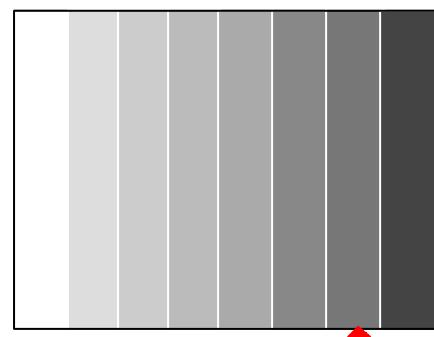

Fig.4-2
2. Use the VOLUME + or - key on the remote controller to adjust and brighten the second scale from the right slightly. (Fig. 4-2)